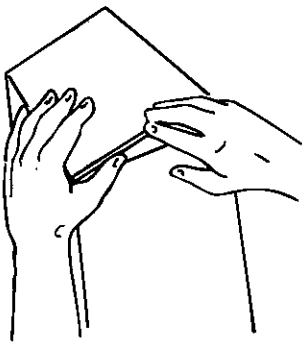

Figure 3.15 Closing the cassette collection box.
4. Close the box and secure both ends with tape (Fig. 3.15). The filled box can be discarded in the normal trash or according to hospital policy and procedure.